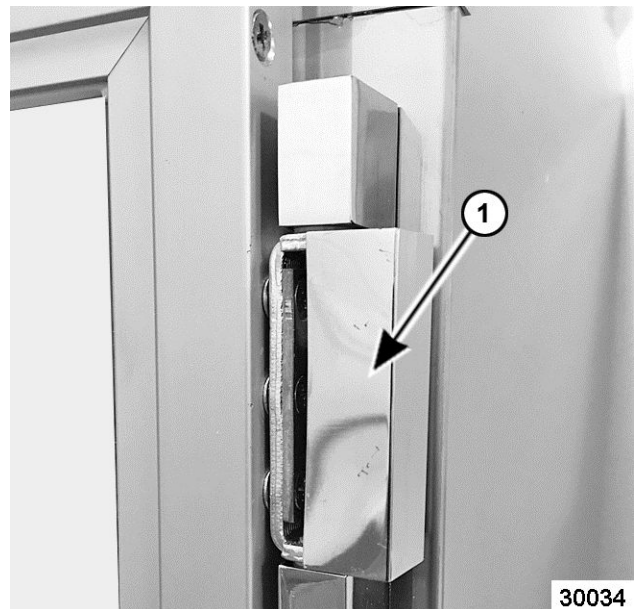

Fig. 32
1. Remove door hinge covers (1, Fig. 32) from lower and upper door hinge.